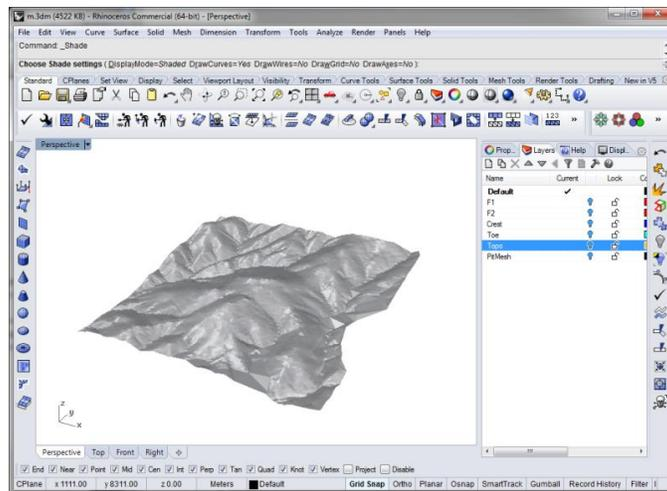

Figure 146: Shaded perspective view of mesh surface on Default layer.
3. **Edit|Select Objects|Points**, followed by **_MeshPatch**. **<ENTER>** to accept the command defaults, followed by another **<ENTER>** to build a mesh representing the topography. **Edit|Select Objects|Points**, followed by **<DELETE>** to get rid of the point. Hide **Topo** in the **Layers Panel**. **Shade** icon and select **Display Mode=Shaded** (Figure 146).